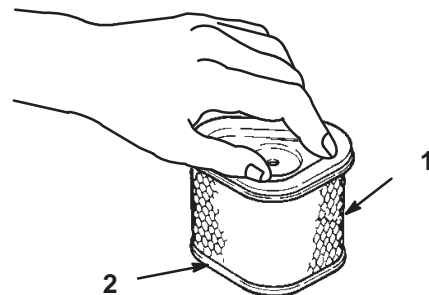

Figure 21
1. Lightly tap the element on a flat surface to remove dust and dirt (Fig. 21).